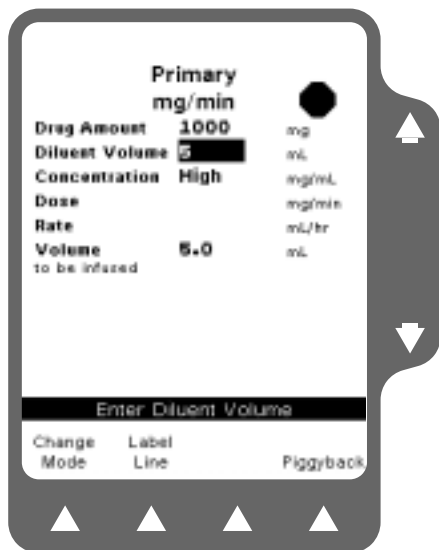

Figure 5-10 Value High Prompt
7. Enter the desired Diluent Volume (Figure 5-10).
Note: The pump calculates the concentration as you enter diluent volume. In Figure 5-10, the concentration is too high because the pump is calculating as the numbers are being entered.